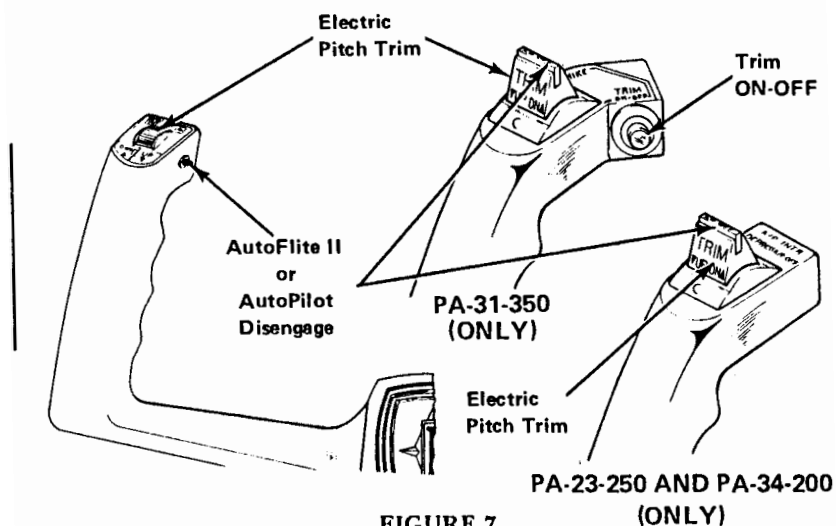

FIGURE 7
a. With installations utilizing a separate control-wheel-mounted disengage button (as shown in Figure 7), for nose-down trim, move the switch forward. For nose-up trim move the switch rearward.
b. With installations having the disengage button incorporated in the control-wheel-mounted trim switch (as shown in Figure 7), the disengage button must be depressed during electric trim system operation. Also the control-wheel-mounted and/or panel mounted trim quick disconnect switch, when installed, must be pushed to the ON position.
a. Depress the disconnect button mounted on the control wheel and/or the control wheel trim switch. (This is the same button used for AutoFlite II disengage during turns.) See Figure 7, page 20.